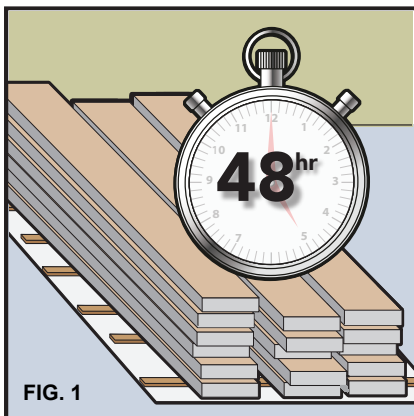

FIG. 1
- Stack boxes no more than eight cartons high in areas to receive new flooring (remove plastic from outside of boxes if present). Ensure each layer is evenly supported to prevent distortion. Elevate stack using 2 x 4's as illustrated in Fig. 1 above. **On concrete; place a layer of 6 mil poly down first during the acclimation process.**